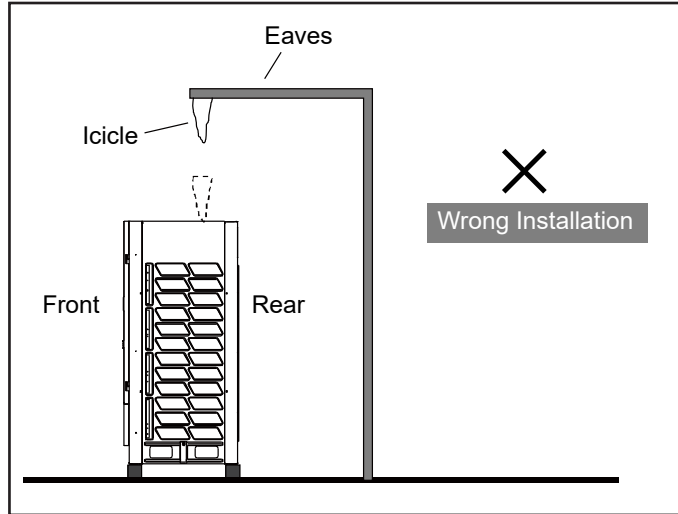

**Figure 4. Obstructions Above the Unit**
- Allow at least 120 in. (3048 mm) clearance above the unit. If an obstruction above the unit does not allow for adequate clearance, a field-supplied discharge duct is required. The discharge duct should be installed in such a way as to ensure that discharge air goes beyond the obstruction and does not cause recirculation of discharge air. Ensure that the static capabilities of the outdoor unit are not exceeded. Figure 4.